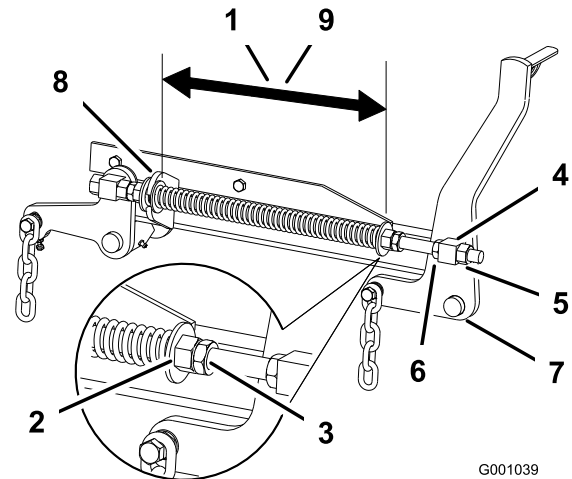

Figure 83
2. Check the distance between the two large washers, it needs to be 11-1/8 inches (28.2 cm) for 52 inch mower decks and 10-1/2 inches (26.7 cm) for 60 inch mower decks (Figure 83).
3. Adjust this distance, by loosening the spring jam nut and turning the nut in front of each spring (Figure 83). Turning the nut clockwise will shorten
4. Lock the nut into position by tightening the spring jam nut (Figure 83).